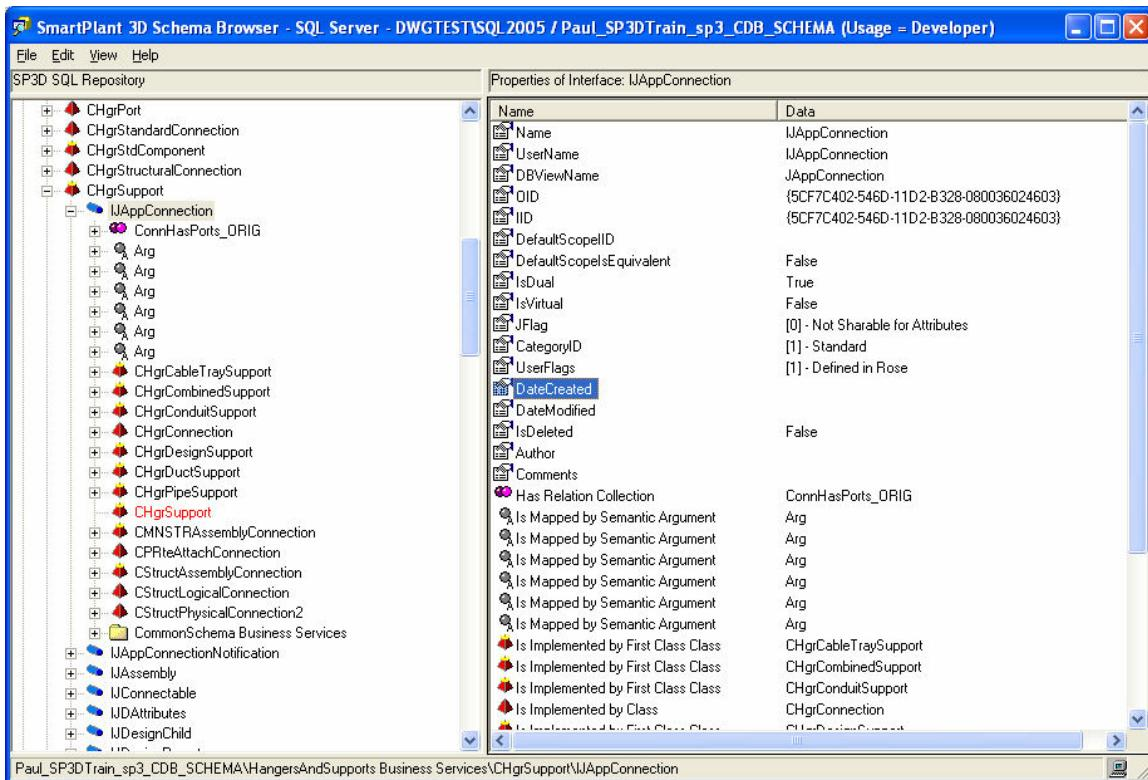

fig. 5
2. The source type *IJAppConnection* is too broad. If you see what objects implement it in the *Schema Browser* tool, you'll see that it's not only *Hanger Supports*. (fig. 5)